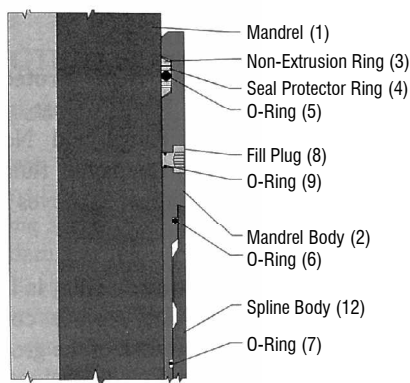
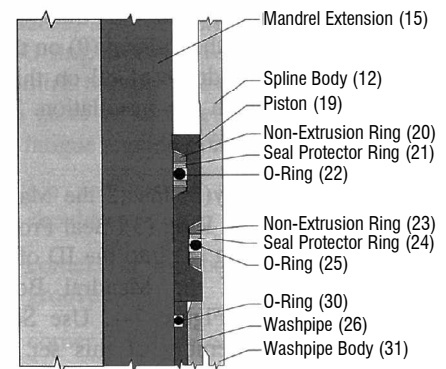
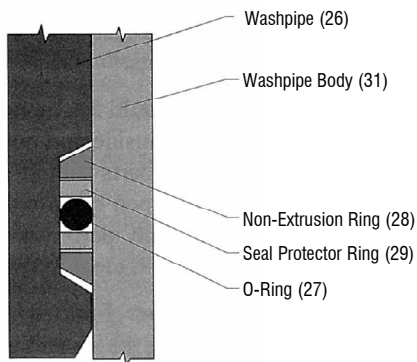

Figure 7.1
Figure 7.2
Figure 7.3
Prior to Main Assembly, Non-Extrusion Rings, Seal Protector Rings, and O-rings should be installed on the Mandrel Body (2), Piston (19), and Washpipe (26). Refer to Figure 7.1, Figure 7.2 and Figure 7.3
1. Install the Mandrel Body Non-Extrusion Ring (3), Seal Protector Ring(s) (4), other Non-Extrusion Ring, and O-ring (5) into the ID of the stencil grove end of the Mandrel Body. Refer to Figure 7.1.
2. Then, install O-ring (27) onto the Washpipe. Refer to Figure 7.3.
1. Install Non-Extrusion Ring (14), Seal Protector Ring (15), and O-ring (16) onto the ID of the Up Seal Body. Refer to Figure 7.3.
4. Pump Bowen Liquid Spring Intensifier Fluid into the tool at a moderate speed, to allow uniform smooth flow. When the fluid rises to the start of the threads of the Pressure Body (18), stop pumping.
5. Slide the Piston (19) over the threads and gently push it into the annulus, between the Pressure Body and the Mandrel Extension (15). The fluid should overflow the Piston as it is inserted. You can use a brass rod to tap the Piston down. When the Piston is just past the threads, STOP.
6. Screw the Washpipe (26) onto the Mandrel Extension (15). During the last 1/2 inch of make-up, the Washpipe will be pushing the Piston further down into the annulus. Tighten the Washpipe to the appropriate value. Refer to Table 11.2.
8. Screw the Washpipe Body (31) onto the Pressure Body and tighten to the appropriate torque. Refer to Table 11.2.
NOTE: When installing the Piston, insure the ID seals in the Piston are placed over the Mandrel Extension (15) first. This may appear reversed (see Figure 7.2) because the Mandrel end is upside down during the filling procedure.
9. Remove the Volume Pump Hose and insert the Fill Plug (8) into the Mandrel Body (2). Tighten the Fill Plug securely.